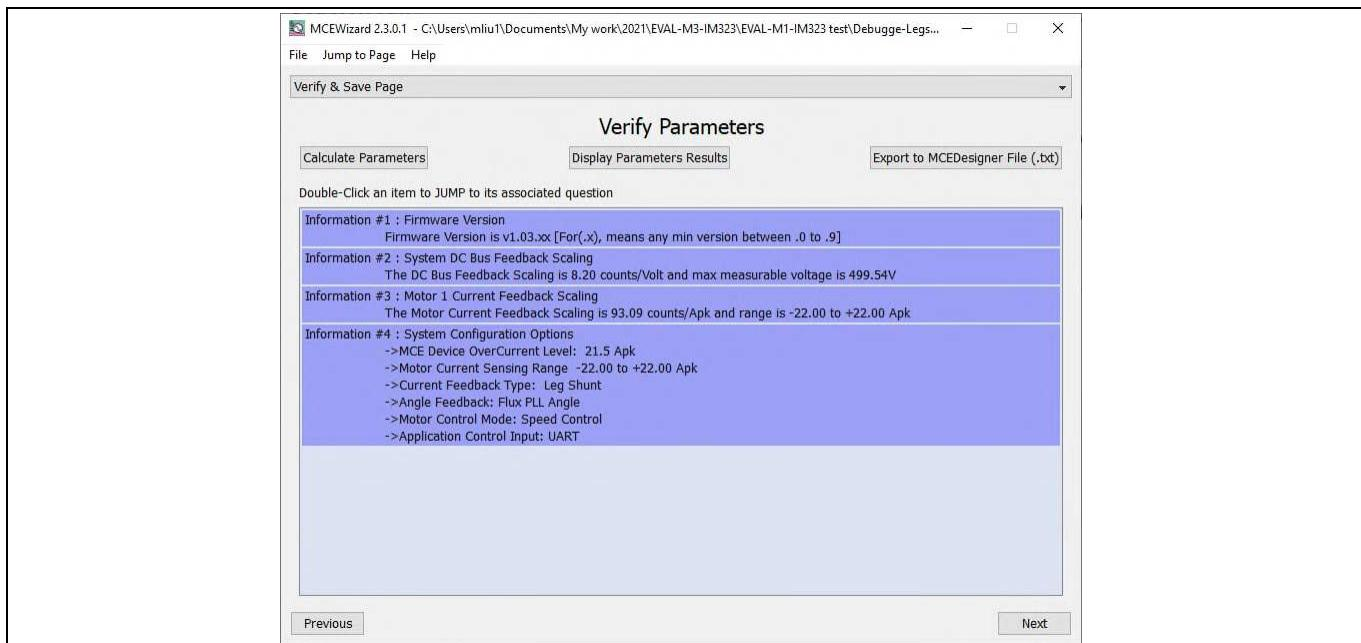

Figure 7 MCEWizard's Verify & Save page
4. After setting the system and operating parameters, go to the Verify & Save page and click **Calculate Parameters**. If no errors are reported, save the drive parameter set into your project directory by clicking **Export to MCEDesigner file (.txt)** (see Figure 7); if an error message appears, double-click the error message (highlighted in RED) and adjust the erroneous parameters. This drive-system parameter file is later used by the MCEDesigner (step 9.)